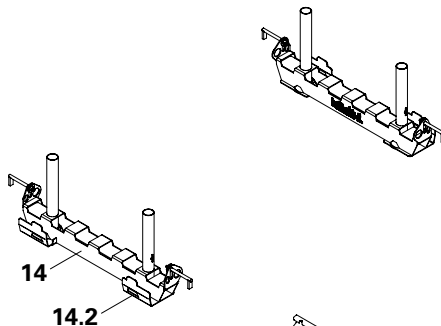

Fig. A1.03
1. Position two Stacking Devices GF (14) corresponding to the element length (Fig. A1.03). The supports (14.2) must be pointing outwards.